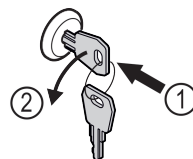

Fig. 169
- Insert the key. Fig. 169 (1)
- Turn the key anticlockwise by 90°. Fig. 169 (2)